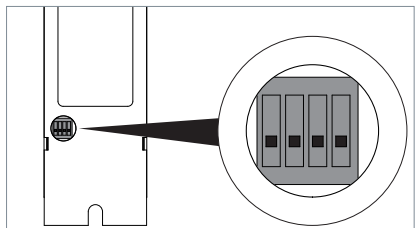

Fig. 23: DIP switch position for the Simple Single Control function.
- ▶ Set the DIP switches no. 1, no. 2 and no. 3 to the "OFF" position, see Fig. 23.